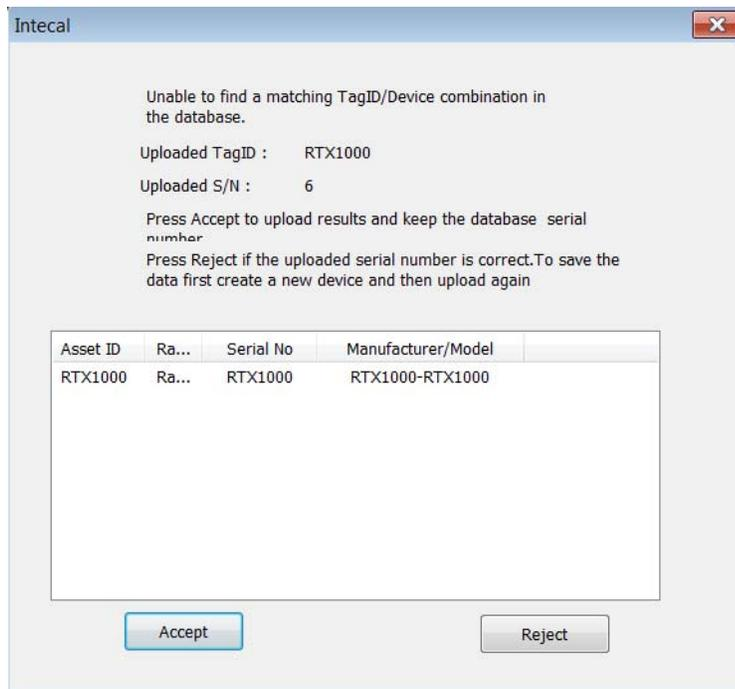

Figure 6-4: Example display - Accept/Reject uploaded serial number
6. If the data you upload includes a *Device* serial number that is not in the Intecal database, the software gives you two options (Figure 6-4):